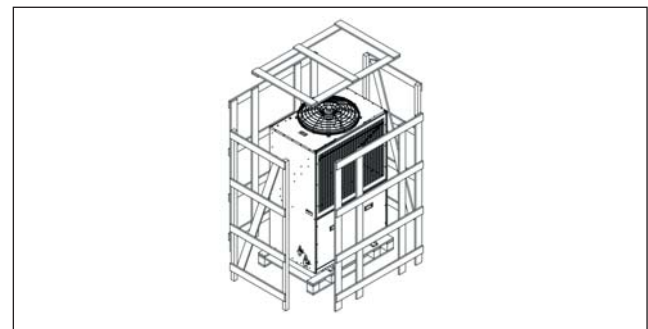

Fig. 9.3
2. Remove the fasteners of the wooden frame (Fig. 9.3).